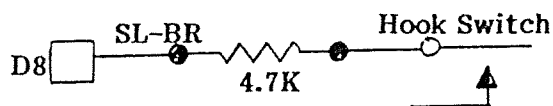

Figure 3
5. Splice a 4.7K (yellow, violet, red) resistor into the slate-brown wire between terminal D8 and the hook switch. (See Figure 3).